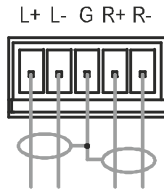

Figure 10: Balanced Stereo Audio Connection
- A balanced stereo output connection, see Figure 10